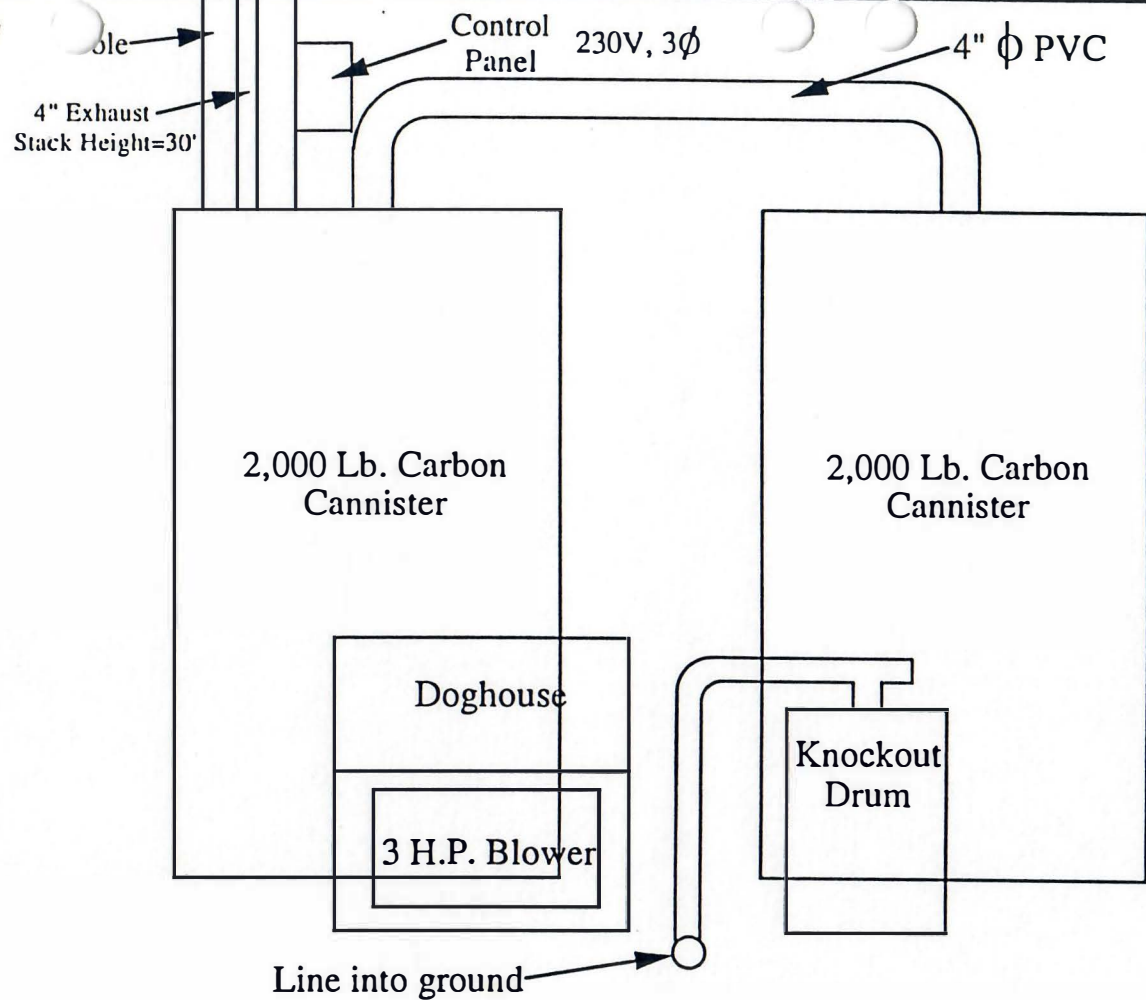

Figure 3:
- Figure 3: Remediation Layout - Sideview